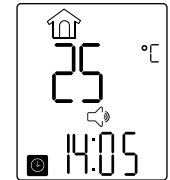

Figure 5
- You also have the option to check the ambient temperature by pressing the MODE button. The ambient temperature is shown on the display together with the  icon (Figure 5). The thermometer then switches back to measuring mode.